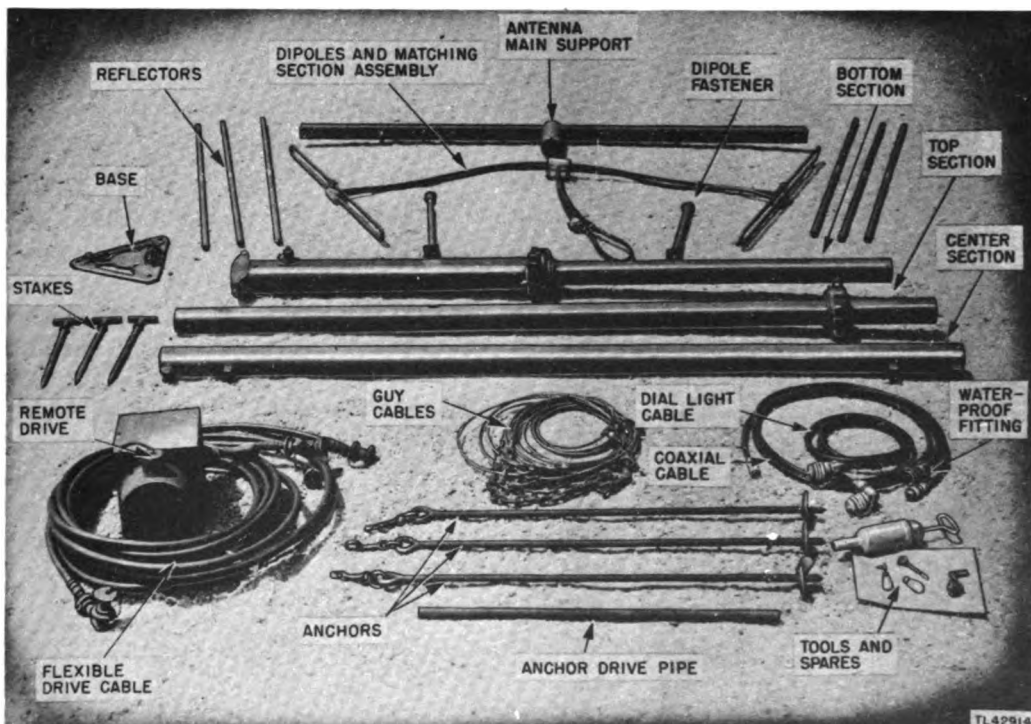

Figure 98. Antenna Tower Kit AS-134/TPX, disassembled.
a. The components of Antenna Tower Kit AS-134/TPX used with Radio Equipment RC-384 are: Antenna Assembly AS-109/TP (fig. 18), Tower TR-29 (fig. 22), Remote Antenna Drive RM-55 (fig. 23), flexible drive Cord MX-363/TPX, Cord CG-282/TPX, and Cord CX-596/TPX. The complete kit is shown in figure 98.